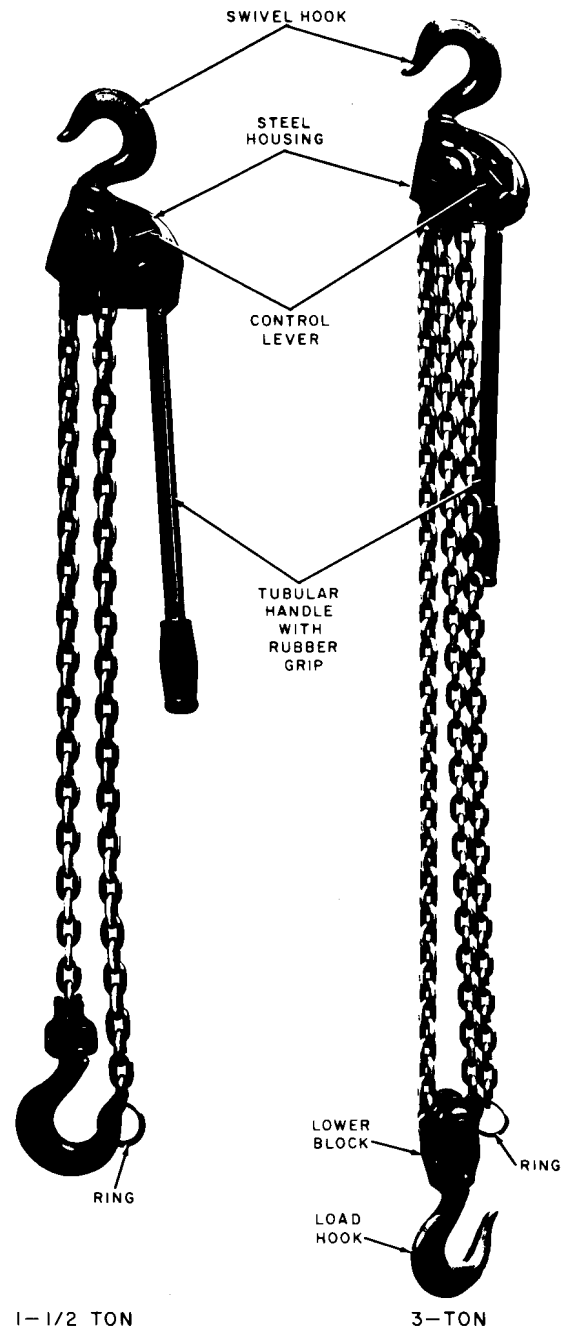

Fig. 1—AT-8438 E Chain Hoist
2.02 **AT-8438:** The AT-8438 E chain hoist (Fig. 1) is available in 1-1/2 and 3-ton capacities. It consists essentially of an operating handle, a steel housing containing a load sheave, ratchets, pawls,